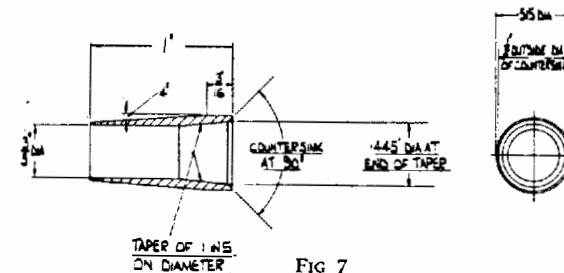

FIG 7
**Dismantling the flywheels.** A flywheel separating tool is shown in Fig. 7. With one crank pin nut removed place the tool over the flywheels as shown—position the draw bolt. By screwing in the bolt the flywheel will come away from the crank pin.
**Replacing the oil seal 042183.** The oil seal is refitted with the metal backing facing outwards, a simple tool to avoid damage to the seal when the cover is fitted is shown in Fig. 7.